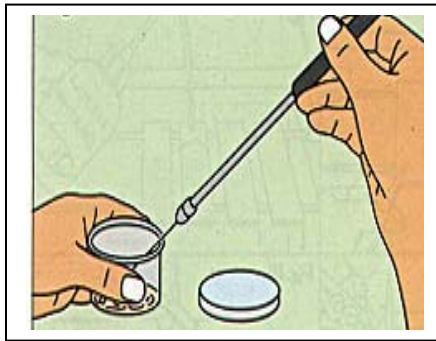

Fig. 7
- Using the jagged ends of the broken stick or wire loop, select and pick up a small portion of purulent particles and transfer on to the slide (Fig.7)